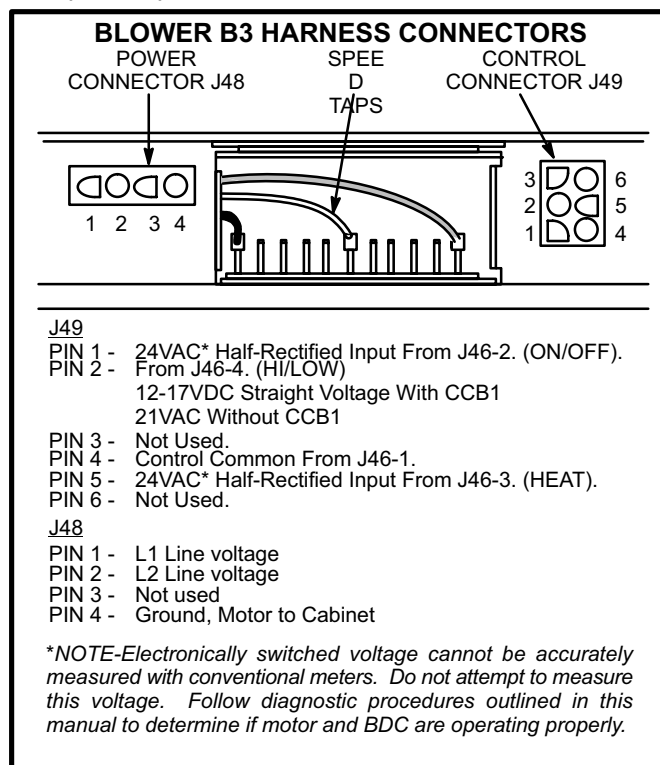

FIGURE 11
Figure 11 shows the two quick-connect jacks (J48 and J49) which connect the motor to the CB21. Jack J48 is the power plug and jack J49 connects the unit controls to the motor. The power plug must be removed to gain access to the speed taps.
- 2- Disconnect AC power plug P48 from motor/controller. See figure 11.